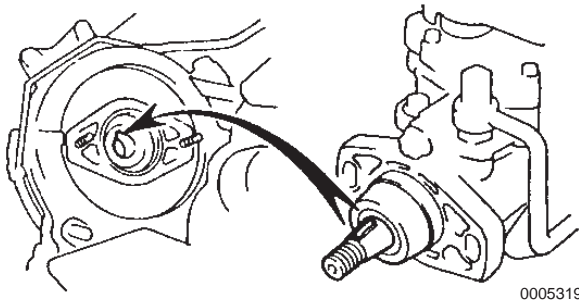

Figure 6-56
3. Align the set key on the drive shaft with the groove in the fuel injection pump drive gear (**Figure 6-56**).